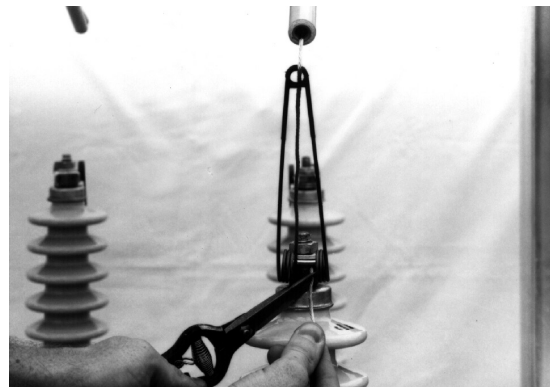

Figure 16.
- E. Trim the excess fuse link lead wire (Figure 16). Approximately 3/8 inch (1 centimeter) of lead wire should extend beyond the clamp assembly.